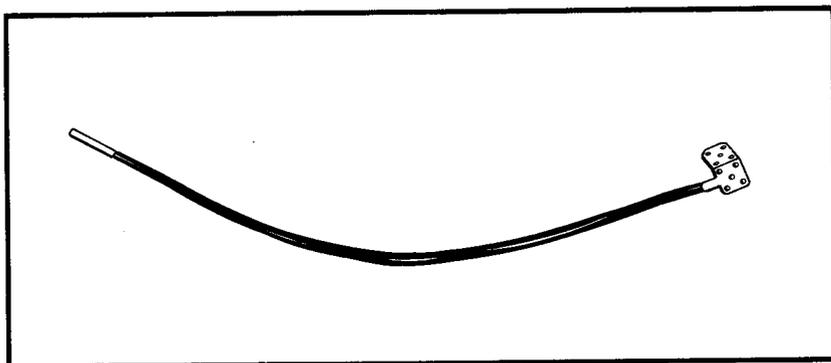

FIGURE 1. Type GH-1 Grounding Harness
3.01 Type GH-1: Used for grounding the shields of direct buried cables at pedestal and pole mounted terminals. Consists of a tinned, Termi-foil connector crimped to one end of a No. 14 AWG solid tinned copper conductor insulated with green PVC. The overall length is 16-1/2 inches. The stripped end of the conductor is placed to the grounding connector provided in the terminal. See Figure 1.